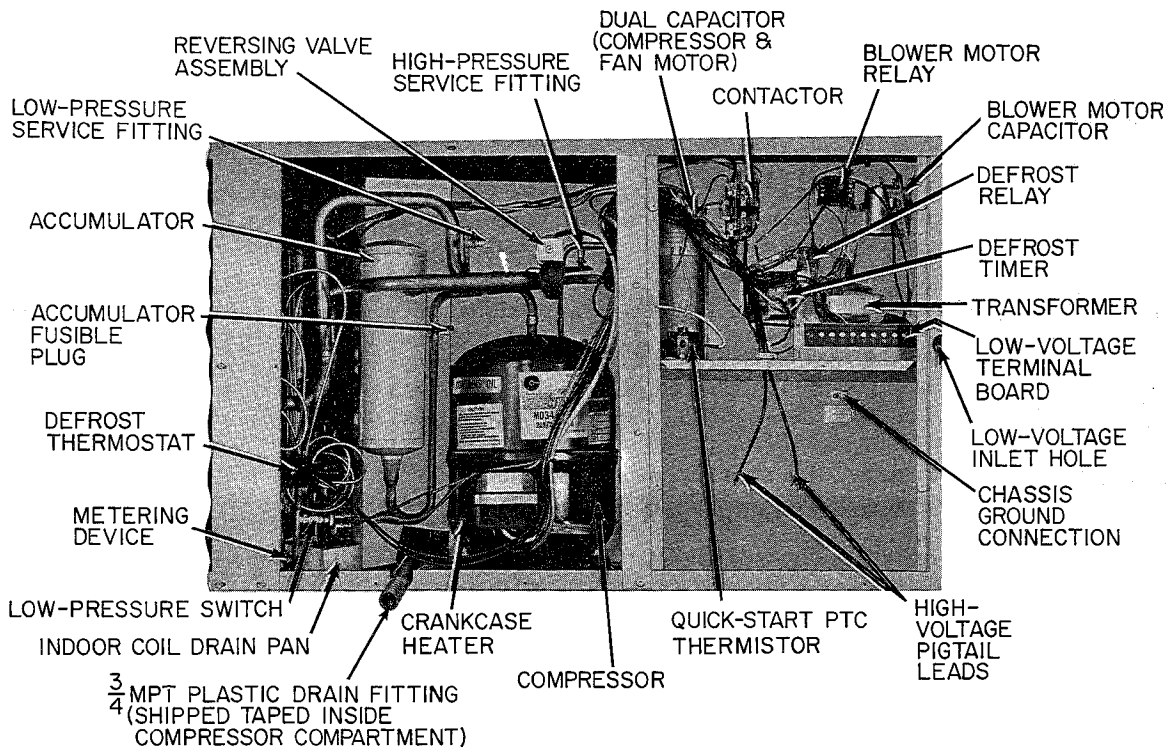

Figure 12—Partial Side View With Compressor & Control Access Panels Removed (Model 542E036, 208V-230V-1)
drain fitting. To prevent damage during the shipping and moving of the unit, this fitting is shipped inside the unit compressor compartment (secured with tape). Locate this fitting and insert the nonthreaded end into the drain hose located in the compressor compartment. See Figure 12.
2. Connect ground lead to chassis ground connection, and connect high-voltage power leads to unit high-voltage pigtail leads. Single-phase units have two black pigtail leads. Three-phase units have two black and one red pigtail lead. See Figure 12, Figure 13, and unit wiring label. Use a suitable wire splice connector or wirenut to make each high-voltage connection. Tape each completed connection.
A grommited low-voltage inlet hole has been provided in the control panel adjacent to the control access panel. See Figure 3 or 4. Run the low-voltage thermostat leads thru the inlet hole and to the low-voltage terminal board. See Figure 12. Complete the low-voltage thermostat connections as shown in Figure 14 or 15, depending on which recommended room thermostat is being used.
1. Remove caps from low- and high-pressure service fittings. See Figure 12.